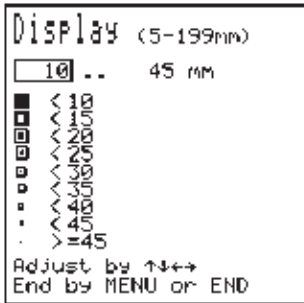

Fig. 5.12 Adjusting grey scale range
- Set the range in which the concrete covers are to be displayed in grey scale («MENU» → «Basic setups» → «Display»). Change the grey scale range to improve the contrast of the displayed object (see Fig. 5.12).